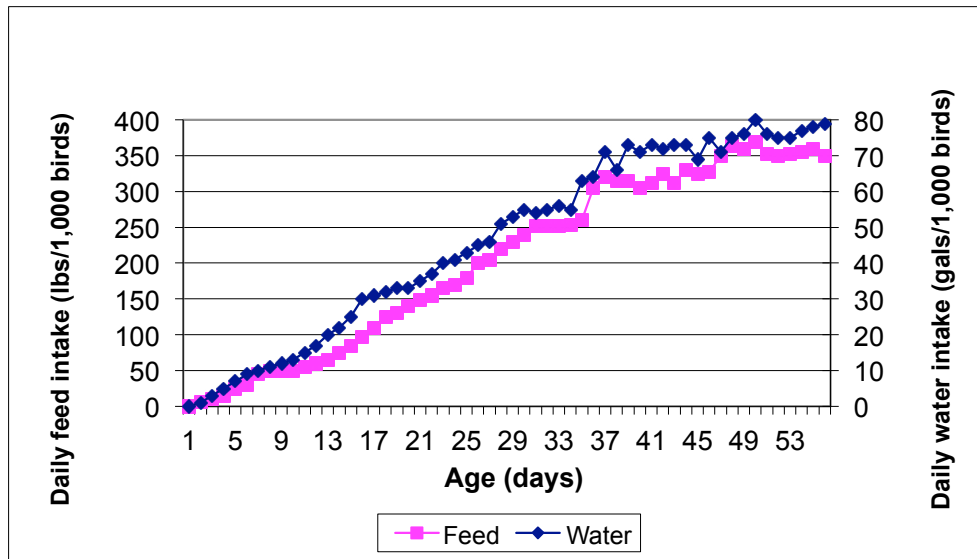

Figure 1. Correlation of broiler feed and water intake. Adapted from 1992 Annual Report.
**Figure 1** shows daily feed and water consumption patterns for a flock of 56-day male broilers. Notice that, on most days, when water intake goes up, feed intake also goes up. The same is true if intake goes down. If you read your water meters daily, this can give you a fair assessment of flock performance. Even though you aren't weighing the feed, you know that if water intake is up today from yesterday, then most likely the birds ate more feed today than yesterday.